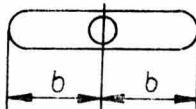

fig. 5
3.1.3. The lock nut of the adjusting thread plug of the needle bar shall be loosened. By turning the thread plug the machine is to be adjusted in such a way that the needle stands "centre of stitch hole" (see fig. 5 and table 1 No. 3).